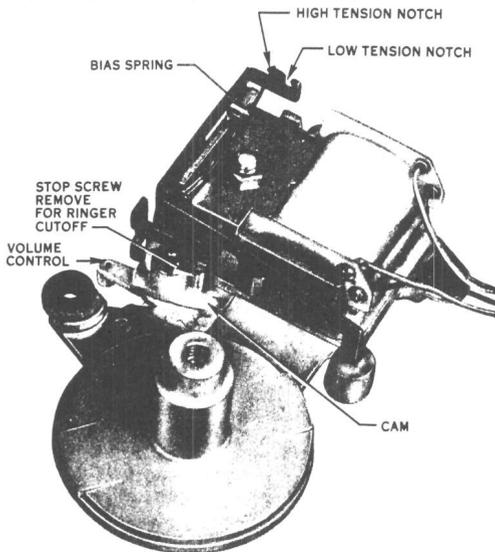

FIGURE 2 - M1A Ringer, Gong and Resonator Removed
- 1.03 Although any of the ringer units (Figure 2) may be used with the 700 telephone, specific types have been designed with the requirements of this series of telephones in view. Each of these ringers provides adequate terminal block facilities for the external circuits of the instruments.